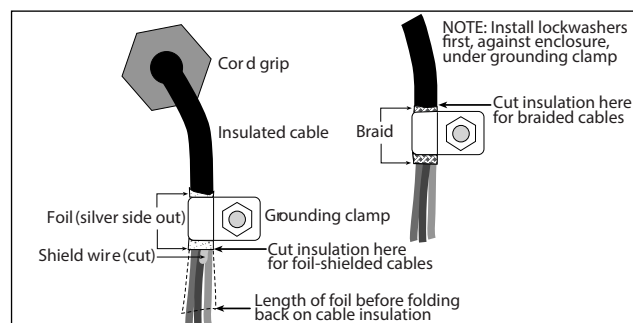

Figure 2-10. Grounding Clamp Attachment for Foil-Shielded and Braided Cabling
- For cables with foil shielding, strip insulation and foil from the cable half an inch (15 mm) past the grounding clamp (Figure 2-10); Fold the foil shield back on the cable where the cable passes through the clamp; Ensure silver (conductive) side of foil is turned outward for contact with the grounding clamp
- For cables with braided shielding, strip cable insulation and braided shield from a point just past grounding clamp; Strip another 1/2" (15 mm) of insulation only to expose the braid where cable passes through clamp (Figure 2-10)